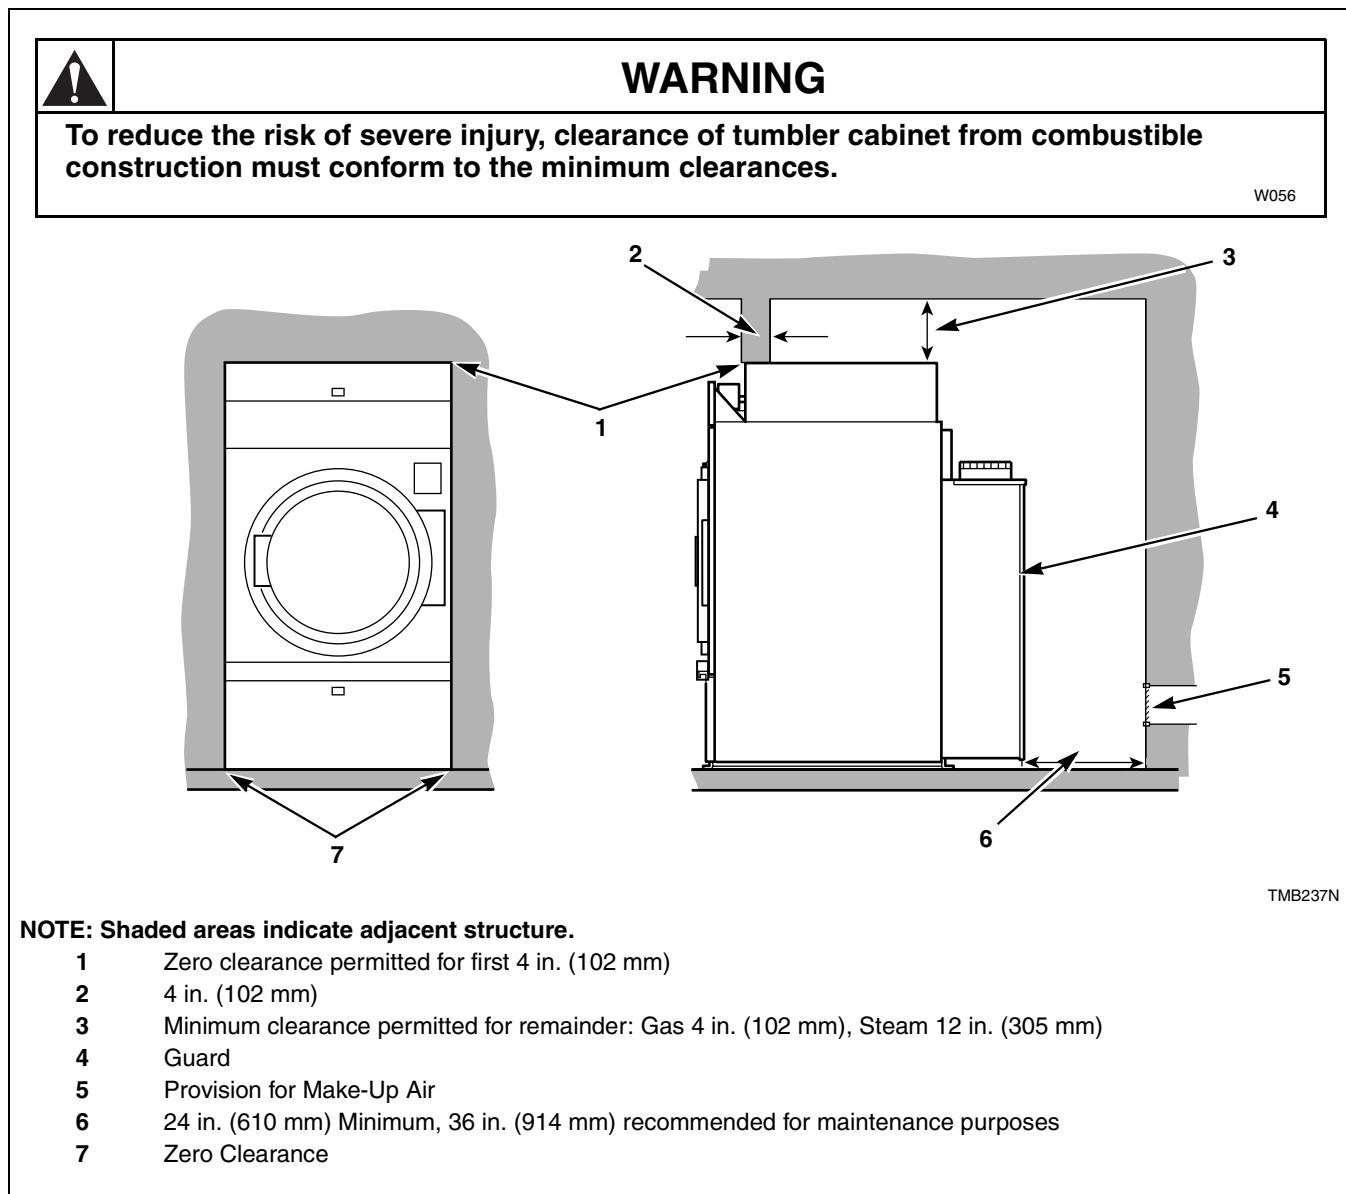

Figure 1
A typical tumbler enclosure is shown in *Figure 1*. Note that the enclosure touches the tumbler top and side panels. Also, note the minimum and maximum dimensions. Local codes and ordinances must be complied with.
**IMPORTANT:** Install tumblers with sufficient clearance for servicing and operation. Refer to *Figure 1*.